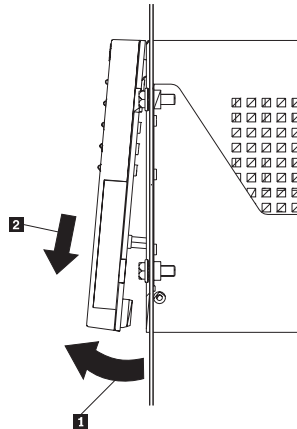

Figure 6. Removing the controller-unit bezel from machine types 3526 and 3552
1. Remove the front bezel from the controller unit (machine types 3526 and 3552), as shown in Figure 6. Carefully pull the bottom of the bezel out to release the pins **1**; then slide the bezel down **2**.